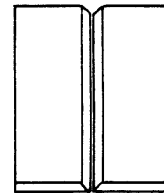

Figure 2.4
2. Position the metal so that the joint to be welded is in the vertical position. (See Figure 2.4)